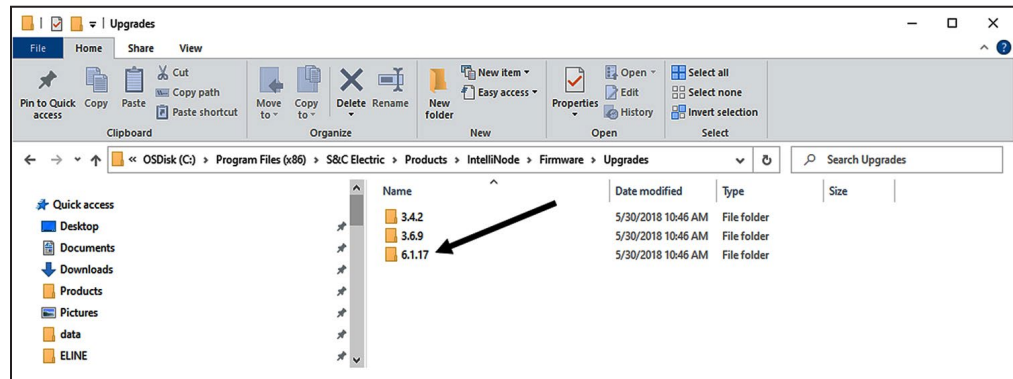

Figure 29. The C:\Program Files (x86)\S&C Electric\Products\IntelliNode\Firmware\Upgrades dialog box.
STEP 6. Open the Windows *File Explorer* screen and navigate to the program folder C:\Program Files (x86)\S&C Electric\Products\IntelliNode\Firmware\Upgrades. See Figure 29. Delete any folders that have a version number later than the target downgrade version.